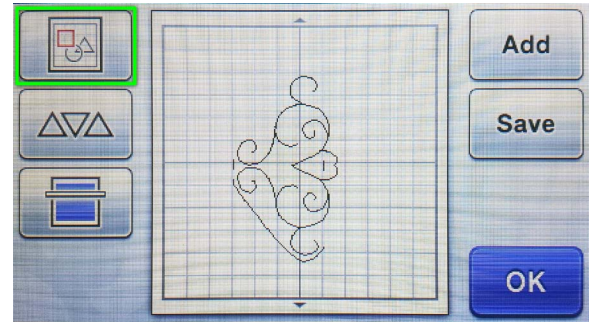

Figure 7
- K. Tap the upper left button on the ScanNCut screen to enter the edit screen. (Fig. 7)